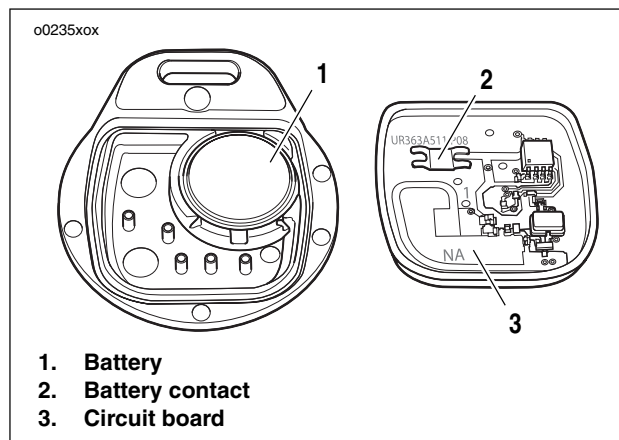

Figure 3-51. Open Key Fob Case
2. See Figure 3-51. Replace battery.